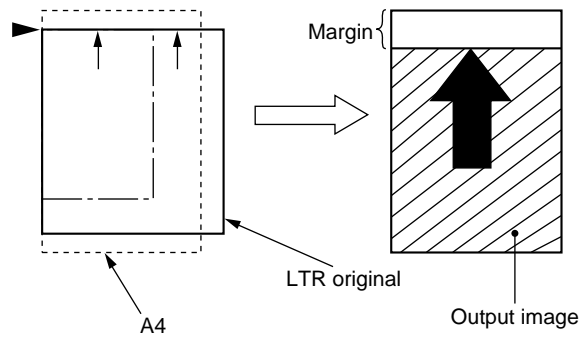

Figure 3-406
- The original will be identified as A4. Since the enlargement will be with reference to the triangle in Figure 3-406 (▶), the margin at the top of the copy will increase.